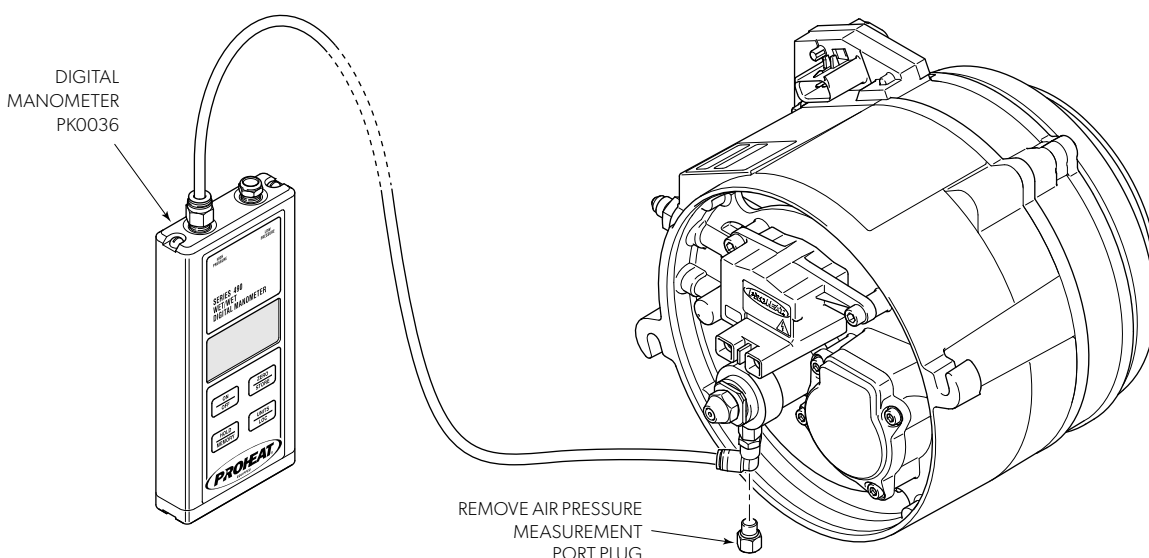

Figure 4-11.
- e) Thread in the pressure gauge and torque to 25 ± 3 in-lbs as shown in figure 4-11.